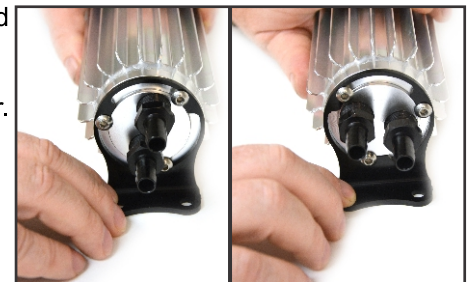

Fig. 3
1. Now Locate the two 1/2" NPT x 3/8" Male Adapter fittings (See Fig. 3)
1. In the Pre-Assembly Cooler instruction line 2, you were told to leave the Button Head Bolts loose. The reason for this is because you can now clock the body of the Heat Sink Color so the fittings work best for the install. (See Fig. 3). Tighten the Button Head Bolts when you have found the best rotation of the fittings on the cooler.